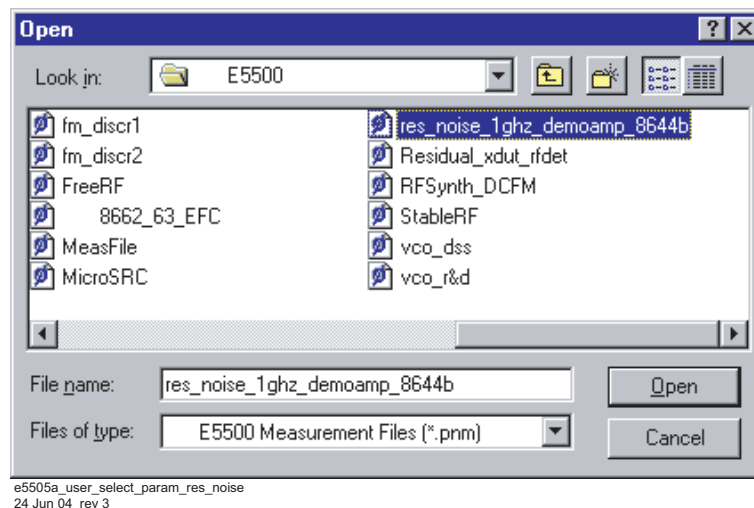

Figure 163 Select the parameters definition file
- 3 In the **File Name** box, choose “**res_noise_1ghz_demoamp.pnm**” See Figure 163.